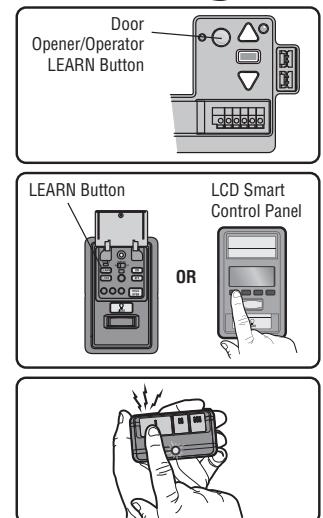

Figure 3
2. Do one of the following operations (Figure 3):